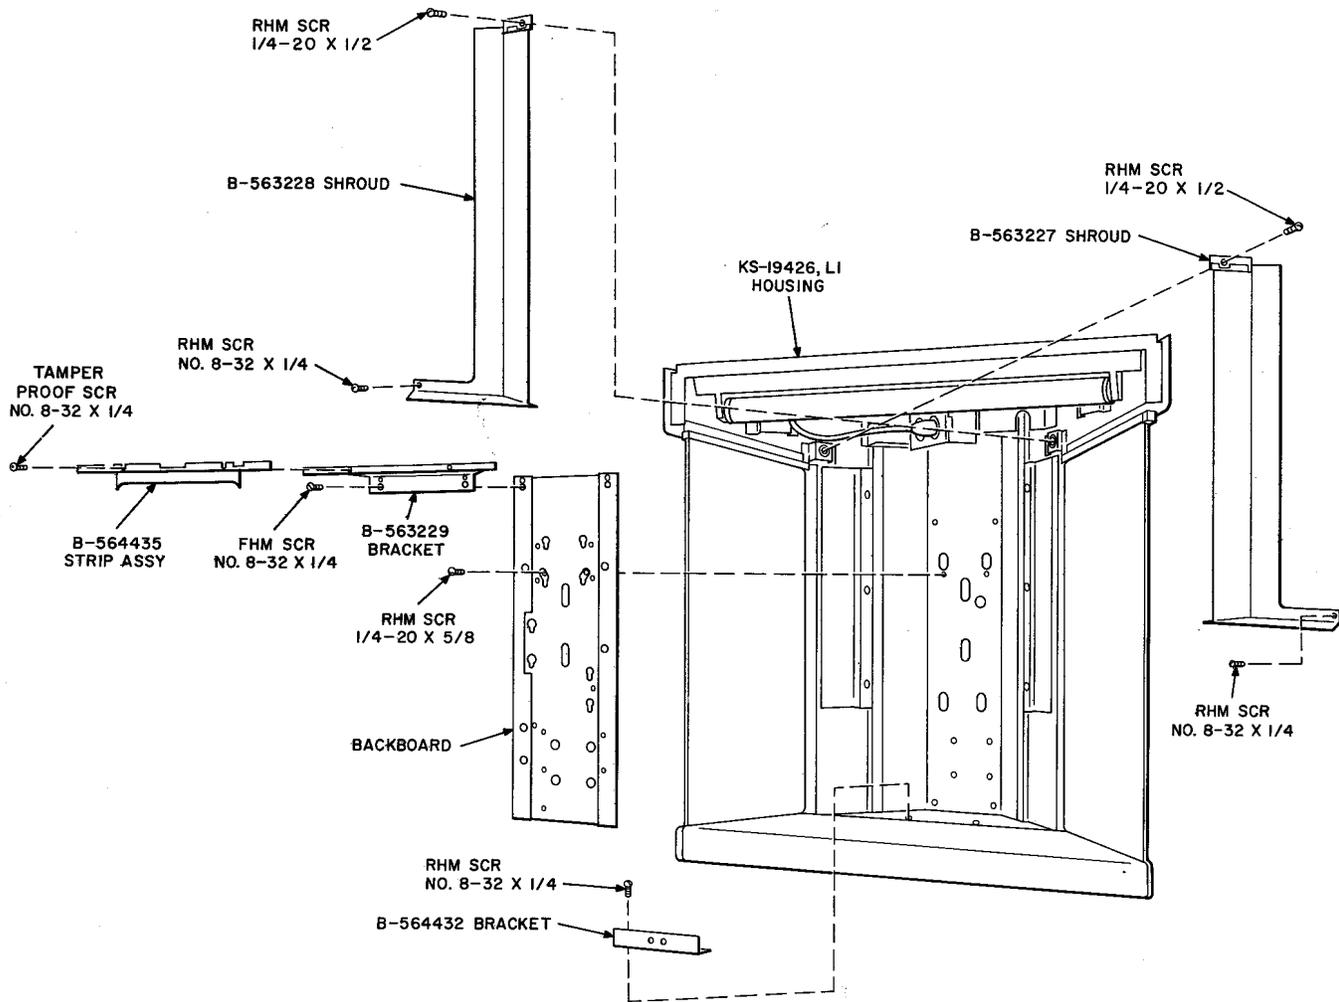

Fig. 8—KS-19426, L7 Installation Kit
**2.11 List 7 Installation Kit:** If 1A-type coin telephone is used, install KS-19426, List 7 installation kit (Fig. 8) as outlined in the following: